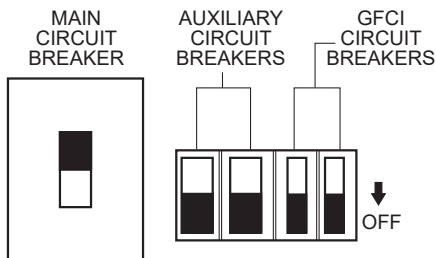

Figure 40. Main, Auxiliary, And GFCI Circuit Breakers (OFF Position)
1. Place the **main, auxiliary, and GFCI circuit breakers** (Figure 40) in the **OFF** position.